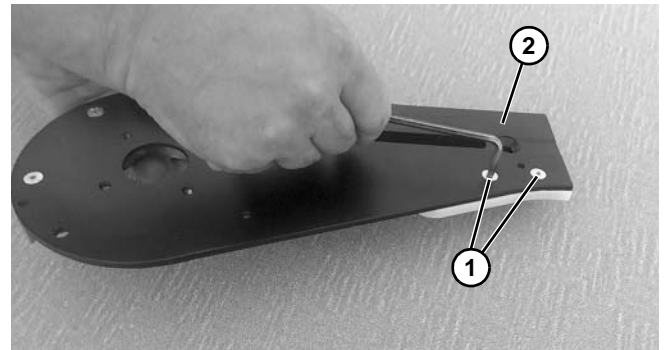

Figure 124
2. Remove two screws (Figure 124, item 1) from outer plates (Figure 124, item 2).